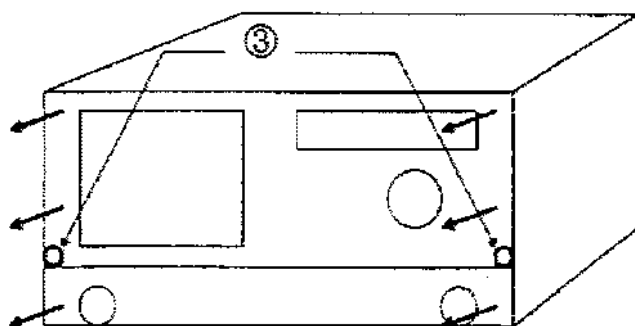

Fig.2
- ② Remove front panel by pulling out.
- ③ Remove 2pcs screws on the front block (Refer to Fig.2),